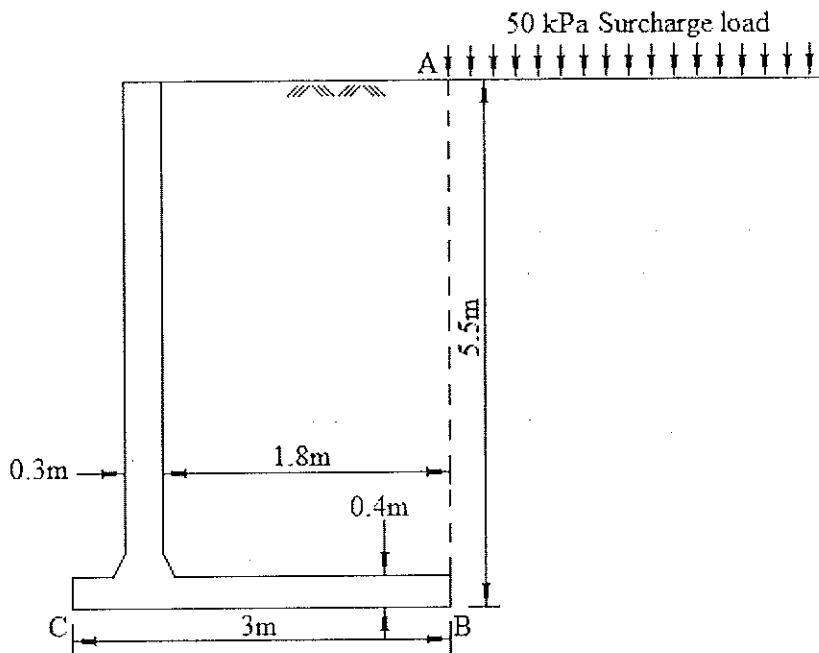

Figure B5
5. Figure B5 shows a detailed view of a cantilever retaining wall supporting a sandy soil formation with properties  $c' = 0$ ,  $\phi' = 38^\circ$  and  $\gamma = 17.5 \text{ kN/m}^3$ . The unit weight of concrete is  $24 \text{ kN/m}^3$ . There is no influence due to the water table. The friction angle between the wall base and the soil,  $\delta = 30^\circ$ .